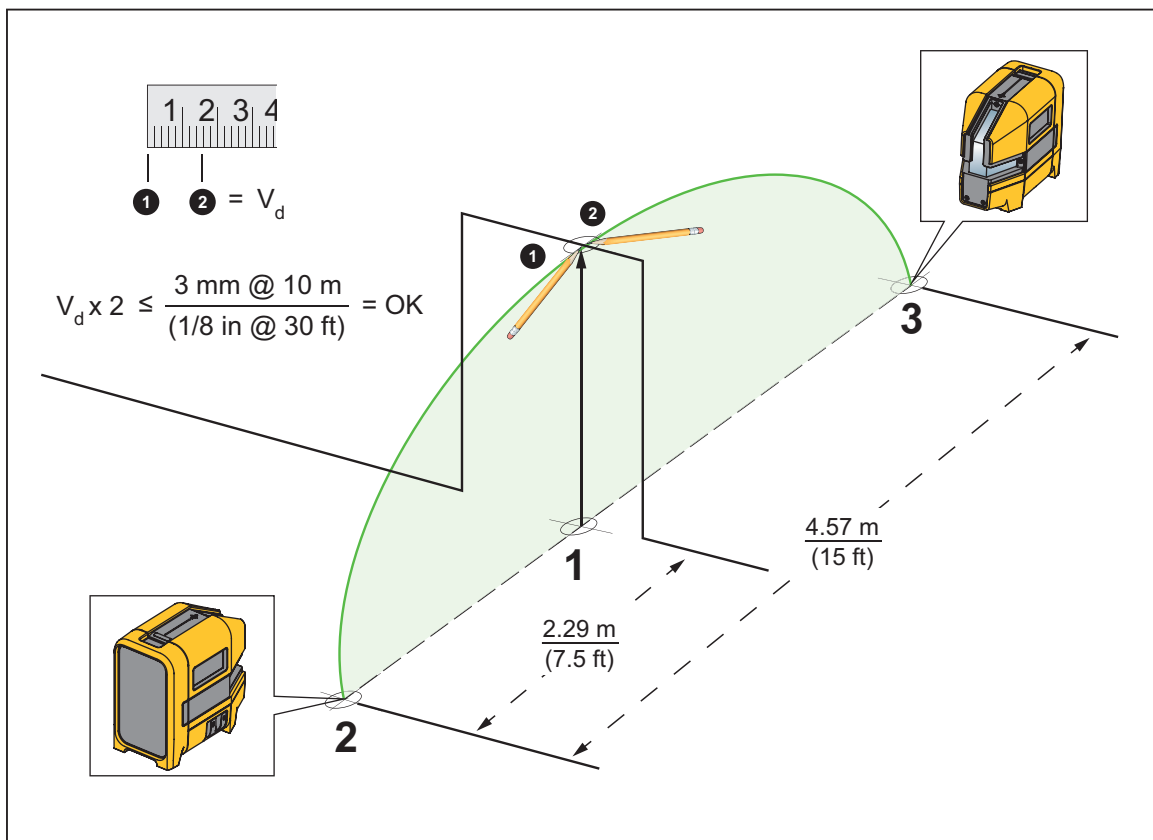

Figure 9. Vertical Laser Accuracy
3. Put a cross mark (mark 1) on the floor centered on the mark on the door header. See Figure 9.
7. Put a cross mark ① on the door header above mark 1.
9. Put another cross mark ② on the door header above mark 1.